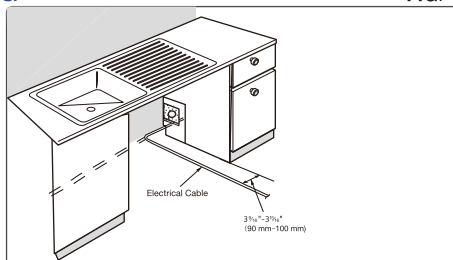

FIG. 4
1. The wiring or cord must be routed as shown in FIG. 4 .
- Make sure electrical supply are routed through the channels under the dishwasher as shown in FIG.4.